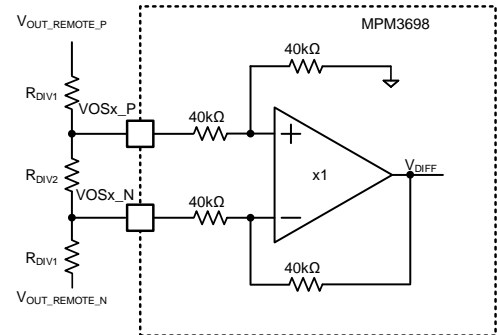
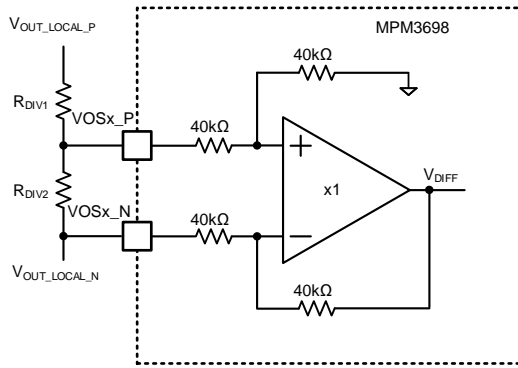

Figure 7: Output Divider Connections with Remote Sense
Figure 8: Output Divider Connections with Local Sense
Set the resistor dividing ratio via $V_{OUT_SENSE_SET}$ (29h on Page 0 and Page 1). The MPM3698 provides two types of external resistor divider sensing: remote sense and local sense. Remote sense provides better load regulation. Figure 7 shows the typical connections when $V_{OUT} > 3V$ and remote sensing is applied.
$V_{OUT_REMOTE_P}$ and $V_{OUT_REMOTE_N}$ are from the load and must be routed as a differential pair on quite areas. Calculate the voltage divider ratio from Figure 7 with Equation (3):
Figure 8 on page 26 shows how to connect the output divider for output voltage designs exceeding the V_{OSx_P} pin specification. V_{OSx_N} is connected to AGND directly to disable remote sense.
Estimate the voltage divider ratio from Figure 8 with Equation (4):
Table 7 and Table 8 show the recommended output resistor dividers and PMBus register settings for typical output voltages. Table 7 shows the resistor values when remote sense is applied (see Figure 7 on page 25). Table 8 shows the resistor values when local sense is applied (see Figure 8).